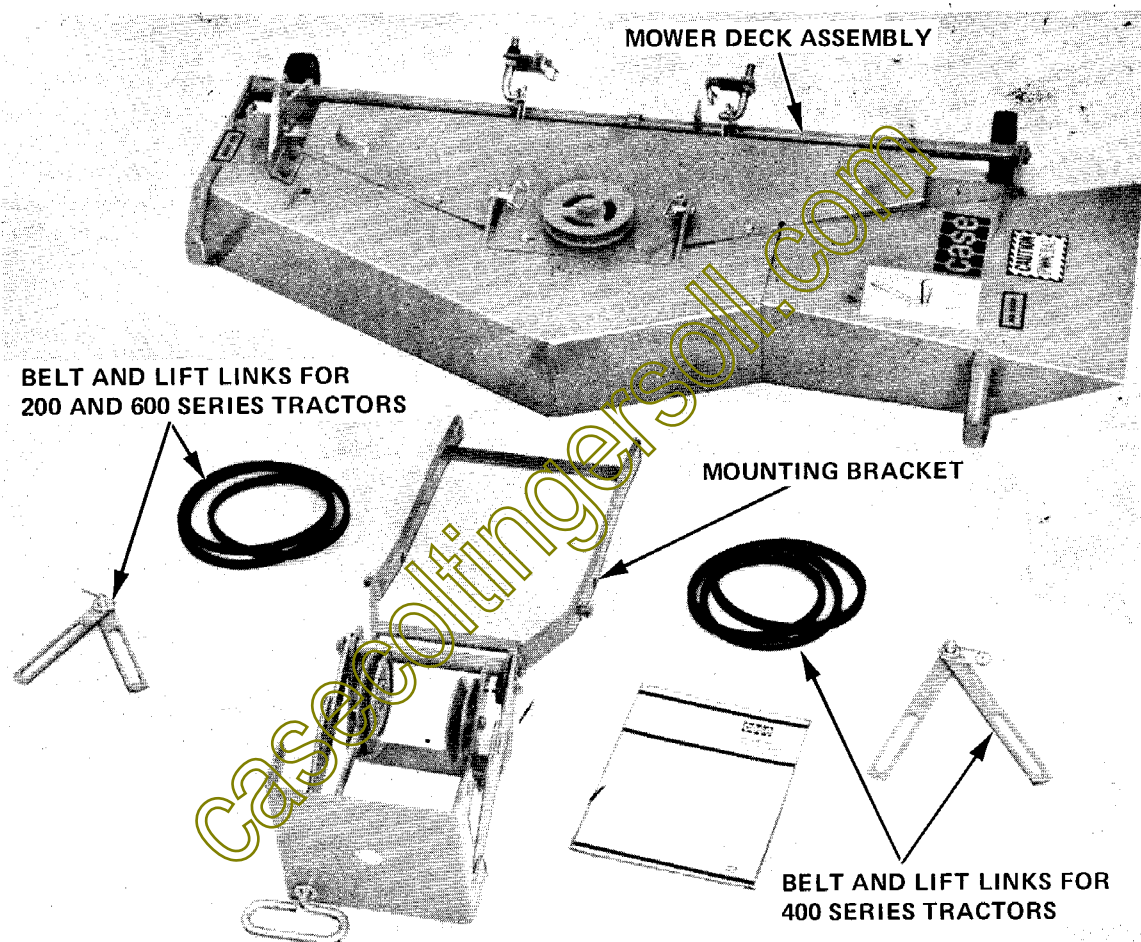

FIGURE 12 MODEL J-46 ROTARY MOTOR - DISASSEMBLED
1. Before assembling the mower, lay out and check the individual components. See Figure 12.